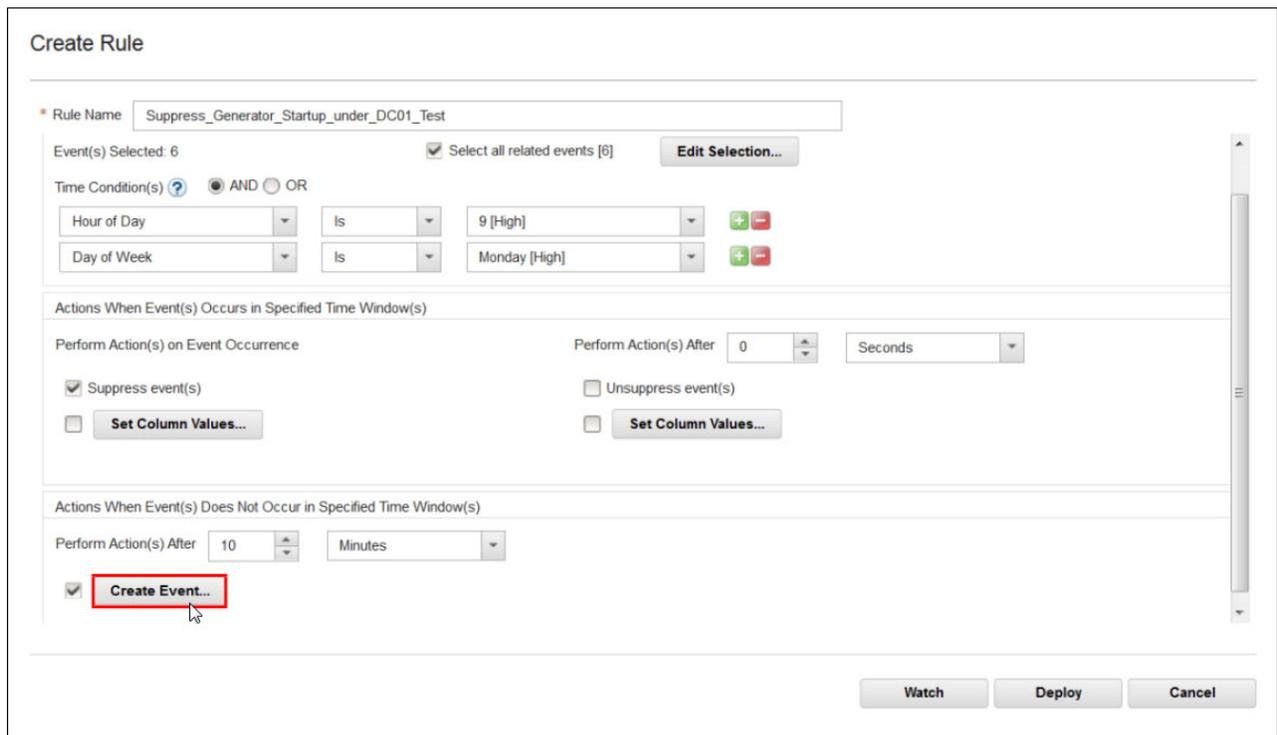

Figure 6-12 Create Seasonal Rule dialog window
3. Marco right-clicks the event and chose **Create Rule...** from the menu. The Season Rule Creation window opened, as shown in Figure 6-12.